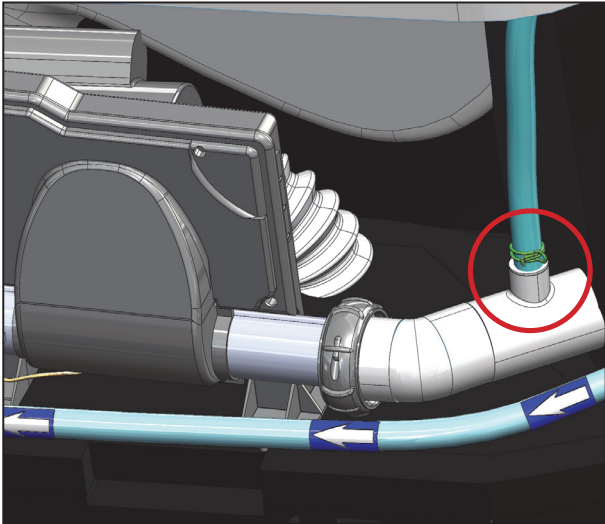

Figure 3.1
1. Locate 3/4" clear vinyl hose at the beginning of the heater discharge line (Figure 3.1).
2. Disconnect 3/4" clear vinyl hose from heater discharge line (Figure 3.1).